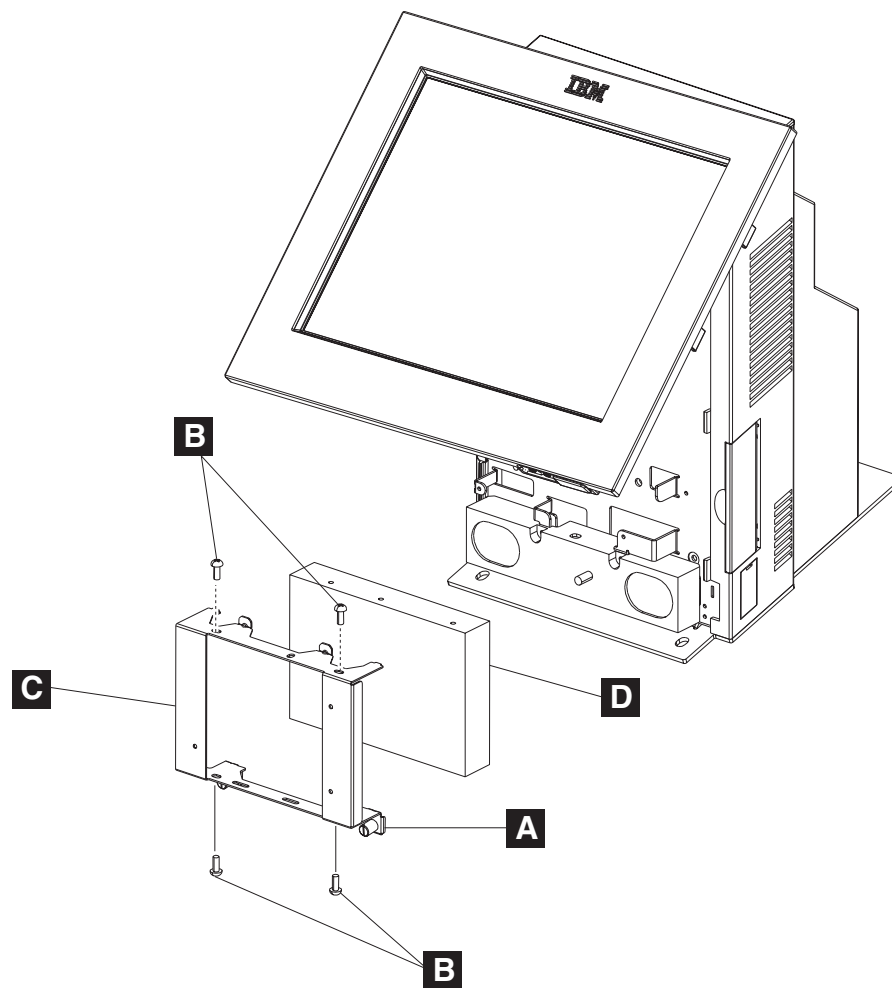

Figure 31. HDD replacement
5. Remove the HDD and bracket assembly by loosening the two thumbscrews **A** in Figure 31 and rotate the bottom of the HDD away from the frame.
1. Switch OFF the power to the SurePOS 500 Models 5x3 and 544/564. Unplug the power cord from the external power source. See Figure 31 on page 51.